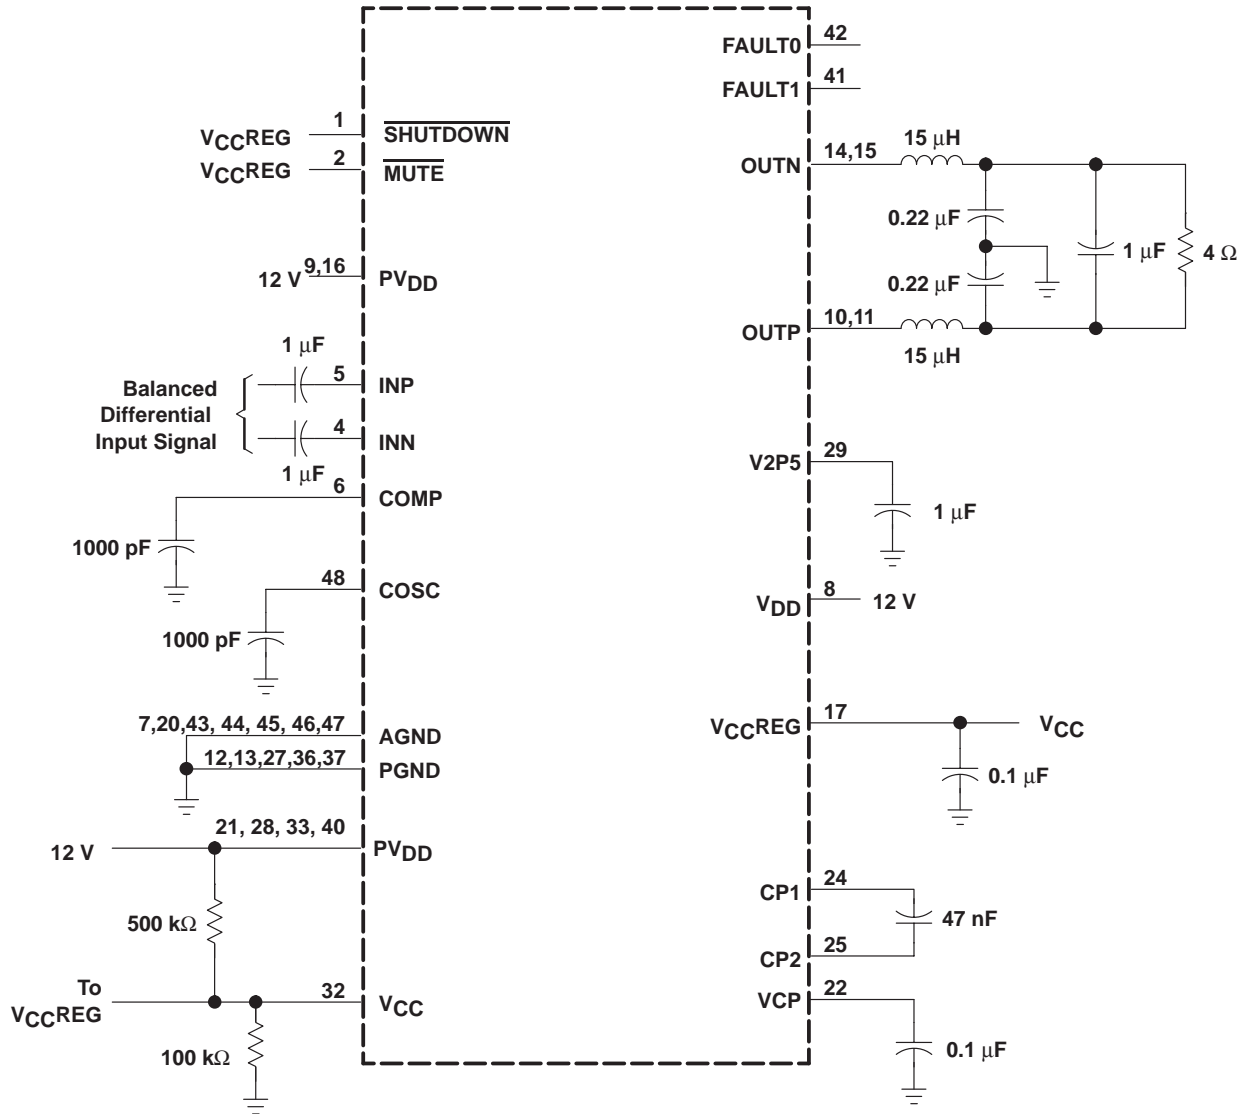

Figure 1. 12-V, 4-Ω Test Circuit
**electrical characteristics Class-D amplifier,  $V_{DD} = PV_{DD} = 12\text{ V}$ ,  $R_L = 4\ \Omega$  to  $8\ \Omega$ ,  $T_A = 25^\circ\text{C}$ , See Figure 1 (unless otherwise noted)**
**operating characteristics, Class-D amplifier,  $V_{DD} = PV_{DD} = 12\text{ V}$ ,  $R_L = 4\ \Omega$ ,  $T_A = 25^\circ\text{C}$ , See Figure 1 (unless otherwise noted)**